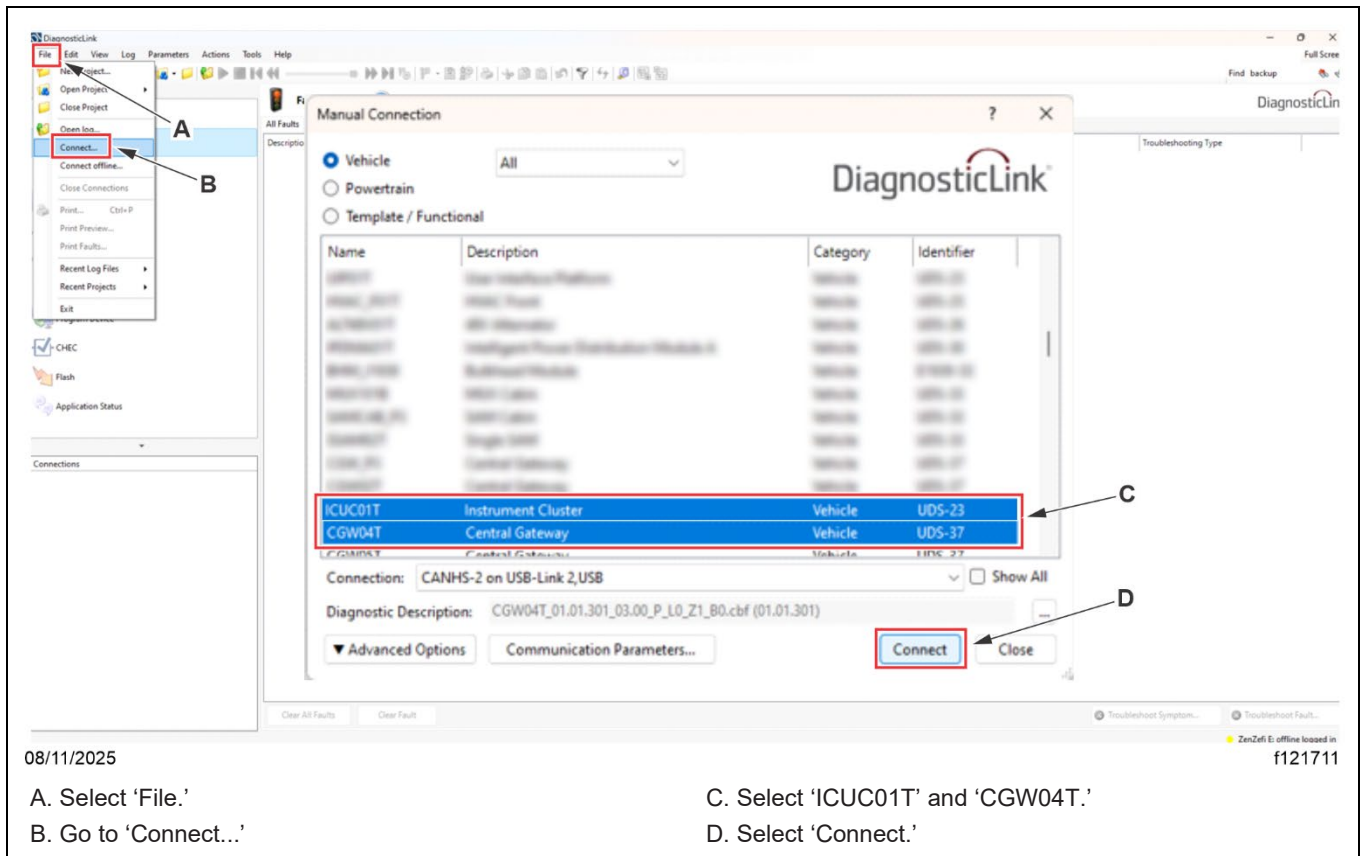

Fig. 3, Manual Connection Window
- 14. In the 'Manual Connection' window that appears, verify that 'CGW04T' and 'ICUC01T' devices are connected. See Fig. 3.